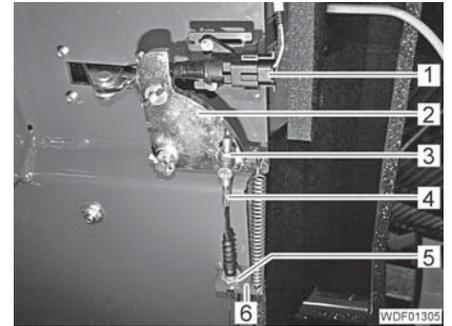

Fig. 349 Bowden cable attachment
- Insert the Bowden cable (Fig. 349,4) from the side into the mounting bracket (Fig. 349,6).
- Tighten the nut (Fig. 349,5).
- Insert the Bowden cable into the holder (Fig. 349,2).
- Screw the nut (Fig. 349,3) with washer onto the Bowden cable and tighten it so that the Bowden cable can still be rotated.
- Connect the plug to the switch (Fig. 349,1) of the parking brake.